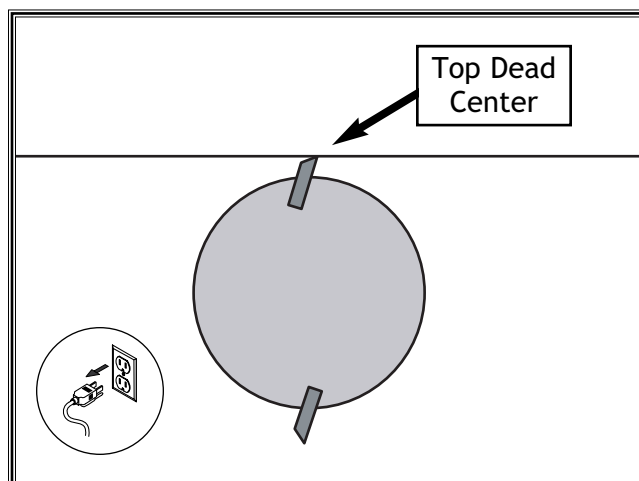

Figure 25. Blade is positioned at its highest position (Top Dead Center).
3. Rotate the cutterhead until one of the blades is at its highest position (**Figure 25**).